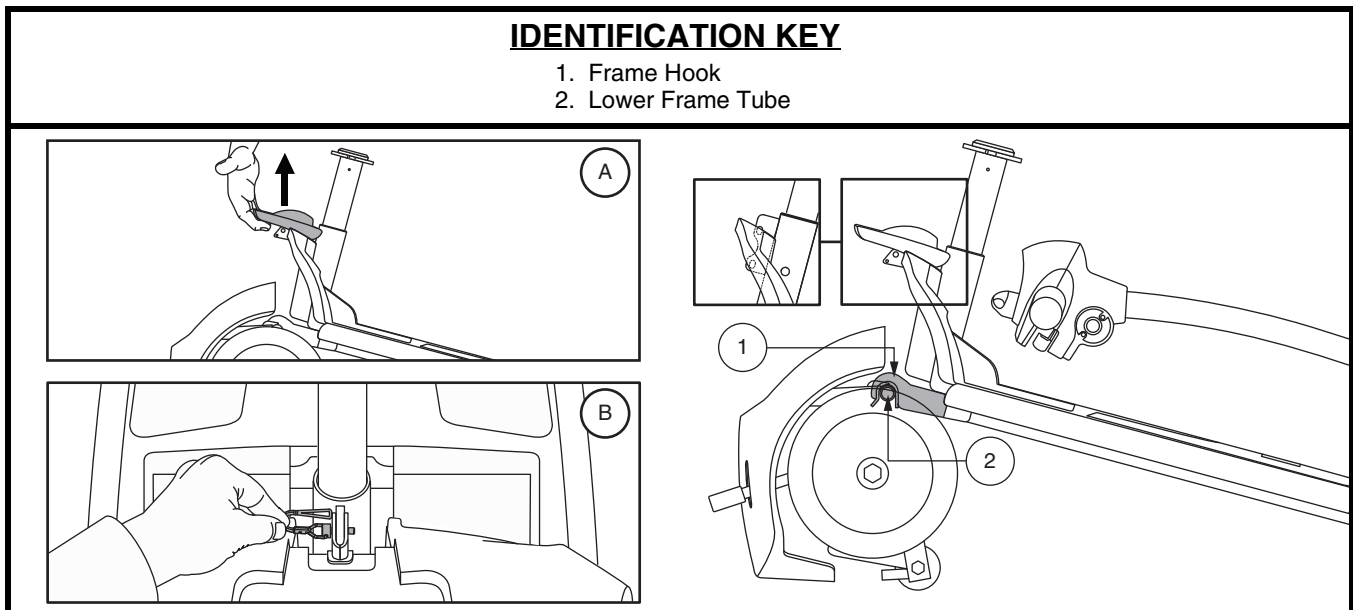

Figure 26. Frame Release Lever (Style A) and Frame Release Lock-up Pin (Style B)
4. Slowly separate the two sections of the Travel Scooter. See figure 26.
NOTE: Before attempting assembly, tilt the rear half of the Travel Scooter slightly back on the anti-tip wheels as shown in figure 26.
1. Use the frame release lever (or the seat post for models 36, 83, and 84 only) to lift the front section as you align the frame hooks of the front section with the lower frame tube of the rear section. See figure 26.
2. Once the frame hooks are over the lower frame tube, lower the front section and pivot the rear section simultaneously. This will engage the frame lock-up automatically for models 40X, 44X, 40E, 44E, 40LX, 44LX, 53, 53HD, 54, 54HD, 73, and 74. For models 36, 83, and 84, you will also need to reinstall the frame lockup pin to complete the body assembly. See figure 26.